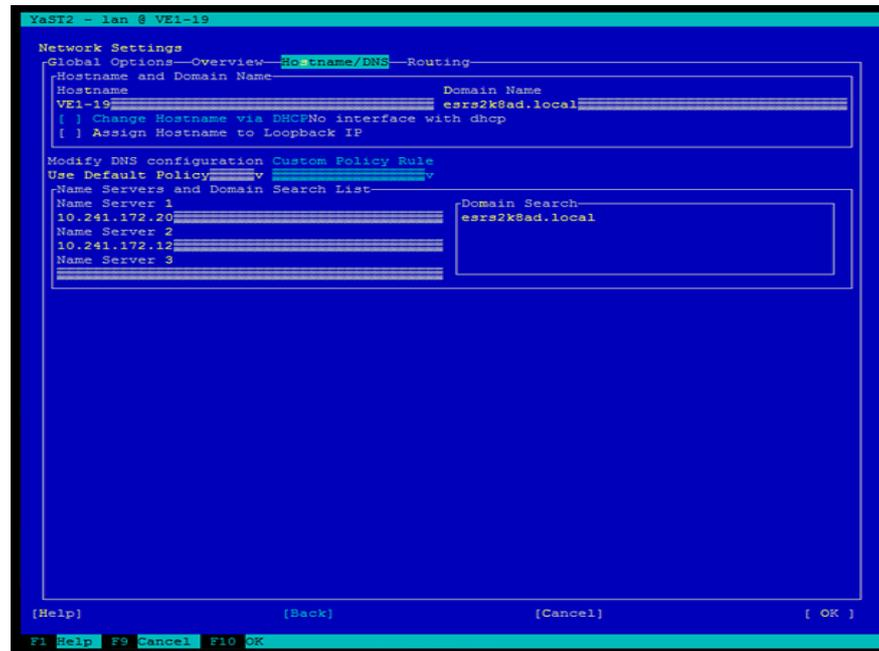

Figure 153 Changing DNS configuration
- b. Edit the DNS configuration using **Alt-S**, as shown in Figure 153 on page 125. If editing is complete, then use **Tab**, **Alt-O**, or **F10** for **OK**. All edits to the network configuration will be written to the system configuration.